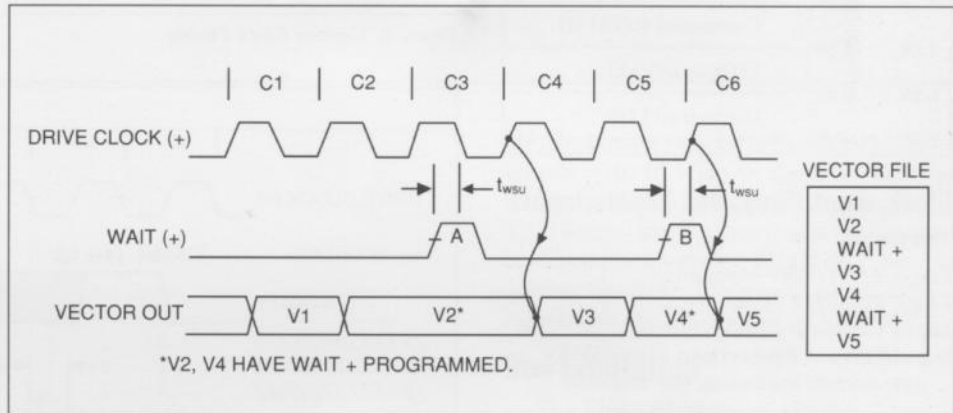

Figure 4. WAIT Input Timing Diagram
**Handshake Line (WAIT) Setup Time ( $t_{wsu}$ ).** See Figure 4: 42.5 ns maximum (35 ns typical) from WAIT edge until a clock cycle drives vector out. If the setup time is not met, the next clock will drive out the vector.